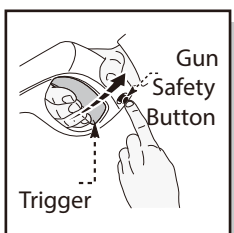

Fig. 14
- Release the safety lock button on spray gun (Fig. 14) while pointing the spray gun in a safe direction, away from yourself and others squeeze the trigger on the spray gun until there is a steady stream of water, letting the water and air out of the hose.